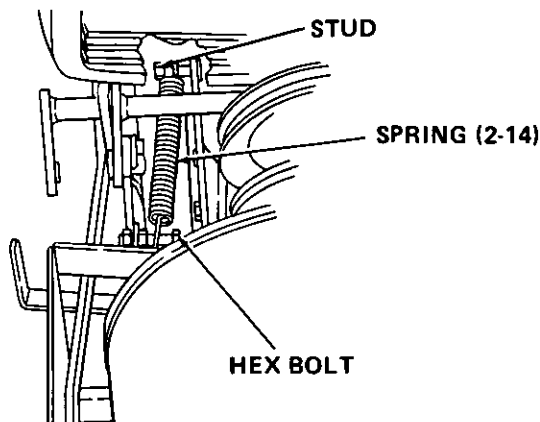

Figure 26
- a. Attach one end of spring to hex bolt on idler bracket. Refer to Figure 26.